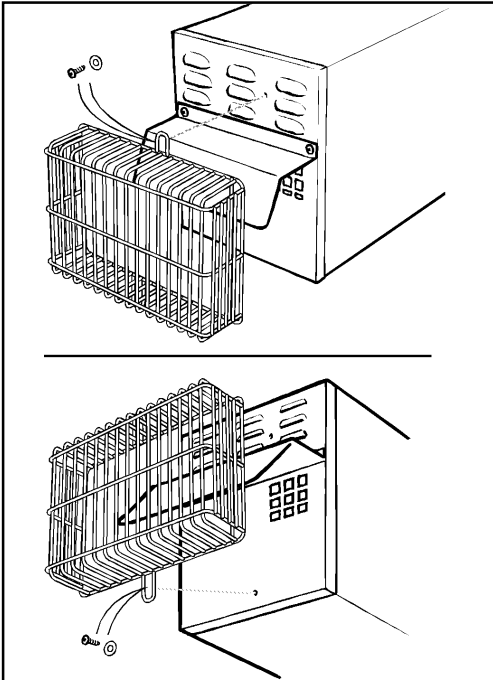

Figure 38 Terminal Guard Fixings
13.12.1 Remove the terminal guard by detaching two screws and washers (figure 38).